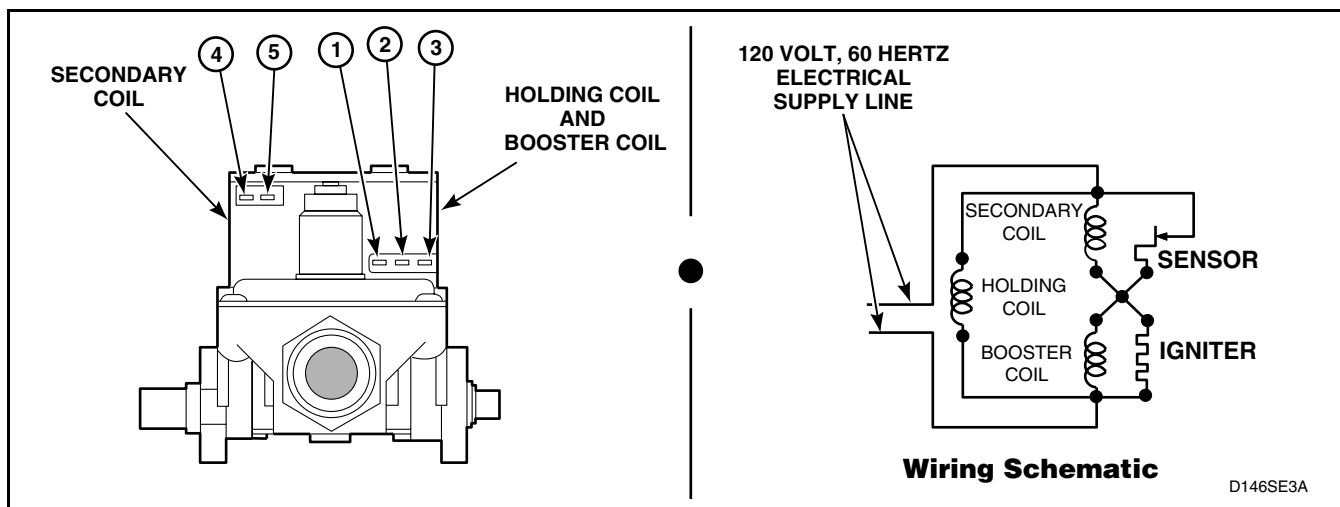

Figure 37
Refer to *Figure 37*
1. Remove valve wire harness disconnect block from the holding and booster coil. Refer to *Figure 37*.
3. Set test meter to read AC voltage and apply meter probes into terminals on the dryer harness that would correspond to terminals "1" and "2" on the coil. Refer to *Figure 37*. Meter should register line voltage in all Fabric settings, except FLUFF which should read "zero" VAC.
1. Remove disconnect blocks from gas valve coils. Refer to *Figure 37*.